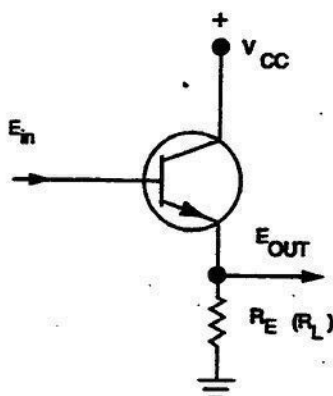

Figure 3-19. Common-emitter circuit.
**Common emitter.** Figure 3-19 shows the widely used common (grounded) emitter circuit configuration. The input is applied between the base and emitter and the output is taken from the collector to emitter. Thus, in this circuit, the emitter is common to both the input and output circuits.
Using figure 3-19, trace a signal through the amplifier circuit assuming that the input is on a positive alternation. The bias polarity is in the forward, low-resistance direction for the EB junction. As the input signal goes positive, the effective emitter-base voltage (forward bias) increases. This increase in forward bias decreases the emitter-base junction resistance. As the junction resistance decreases, the collector current through  $R_L$  increases. The voltage drop across  $R_L$  also increases, making the collector side of  $R_L$  less positive, and, therefore, negative going.